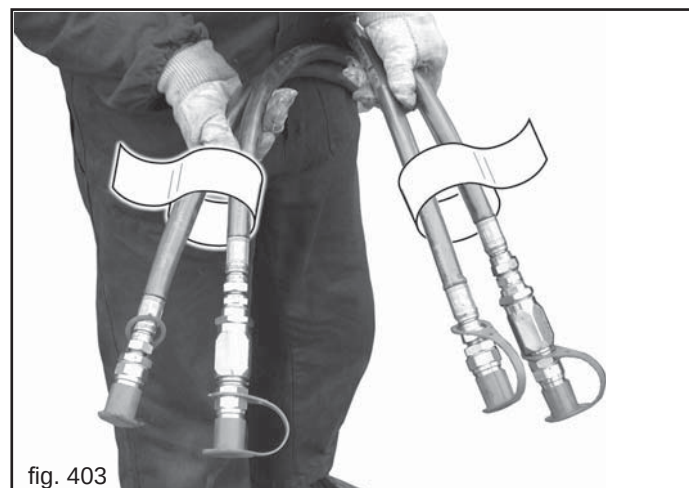

fig. 403
- 4) The hydraulic pipes must be connected correctly to the tractor distributors following the instructions on each pipe (Fig. 403).